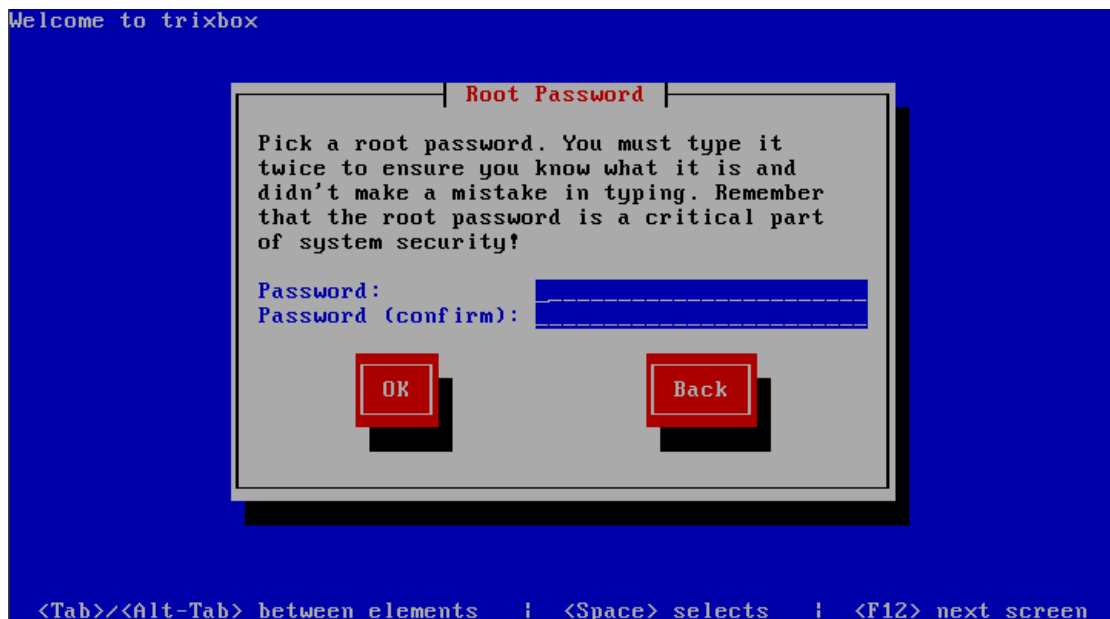

Figure 4
- Next, enter the root password as shown in Figure 4.